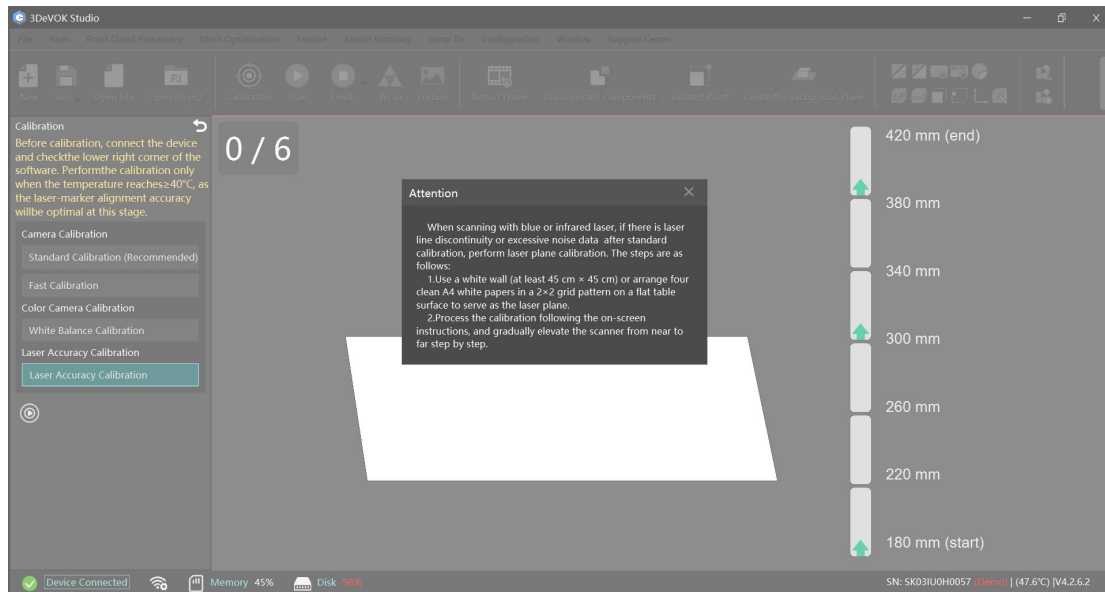

Figure 6-5 Laser Accuracy Calibration
2. Select the "Laser Accuracy Calibration" function on the left, and process the calibration following the on-screen instructions, as shown in Figure 6-5.